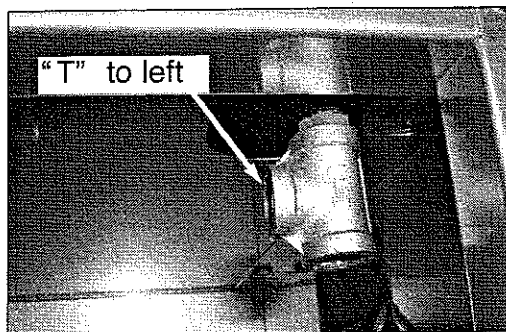

Fig 18
1. Attach the tee fitting to the manifold as shown. Tighten with wrench. Make sure the "T" is facing to the left. (See Fig. 18)